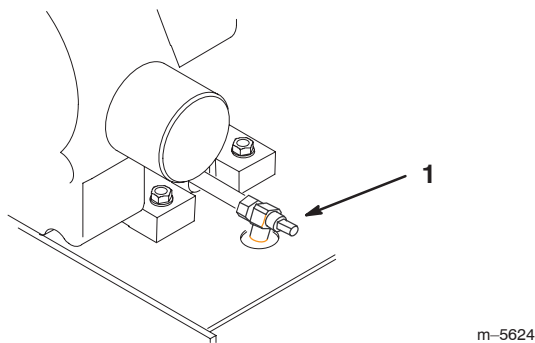

Figure 40
3. Place a pan below the oil drain. Rotate the oil drain valve to allow oil to drain (Fig. 40).